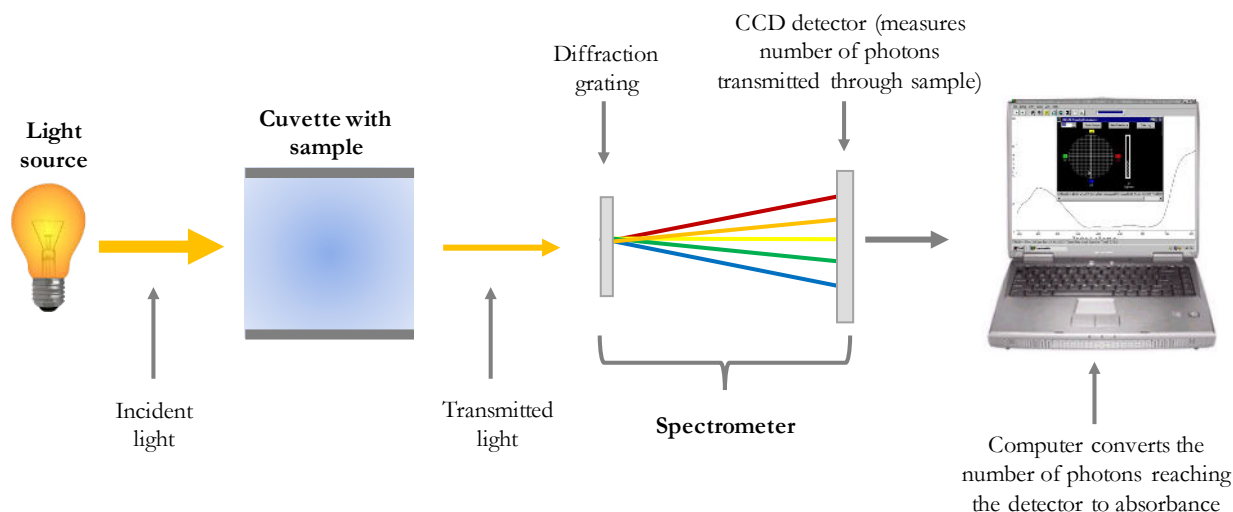

Figure 2: Schematic of an absorbance measurement using a spectrometer
How is absorbance used to determine the concentration of a colored solution? Typically, a cuvette containing the colored solution is placed in the spectrometer. Spectrometers consist of a light source, which produces a beam of light (P_0) that passes through a sample in the cuvette. The light that passes through the sample (P) is then split into its component wavelengths by a diffraction grating. A charge coupled device (CCD) detector then measures the number of photons that reaches it at each wavelength. A computer then converts this into an absorbance reading using $A = \log (P_0/P)$ as shown in Figure 2.